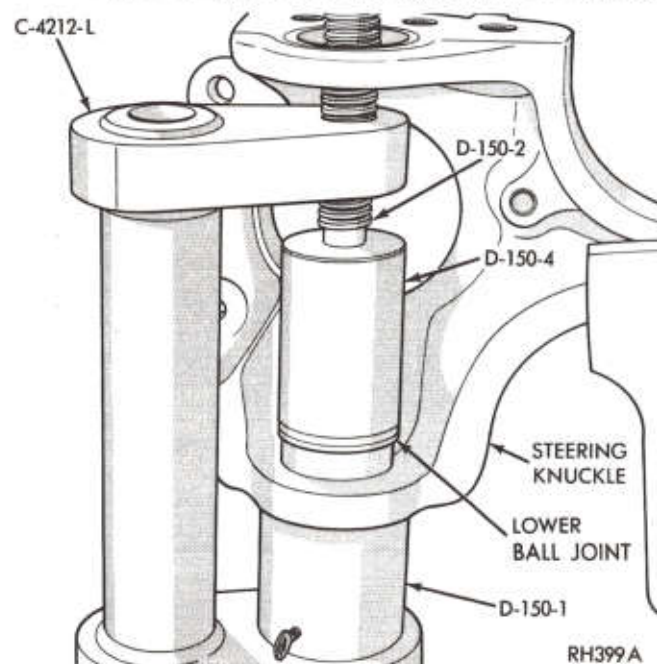

Fig. 9—Installing Lower Ball Joint
(1) Position steering knuckle right side up in a vise. Using Tool C-4212-L and Adapter Set C-4288 positioned as shown in Figure 9 carefully press lower ball joint into position. Install snap ring with C-4020 snap ring pliers.